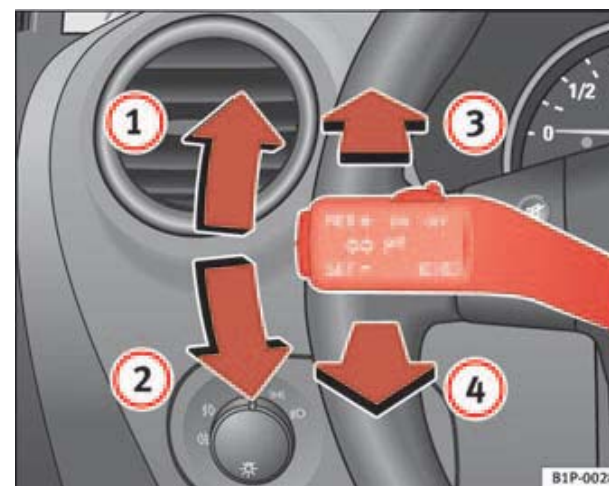

Fig. 76 Turn signal and main beam headlight lever
- Move the lever all the way up \Rightarrow fig. 76 **1** to indicate **right**, and all the way down **2** to indicate **left**. ▶
- Press the lever forward \Rightarrow page 115, fig. 76 **3** to switch on the main beams.